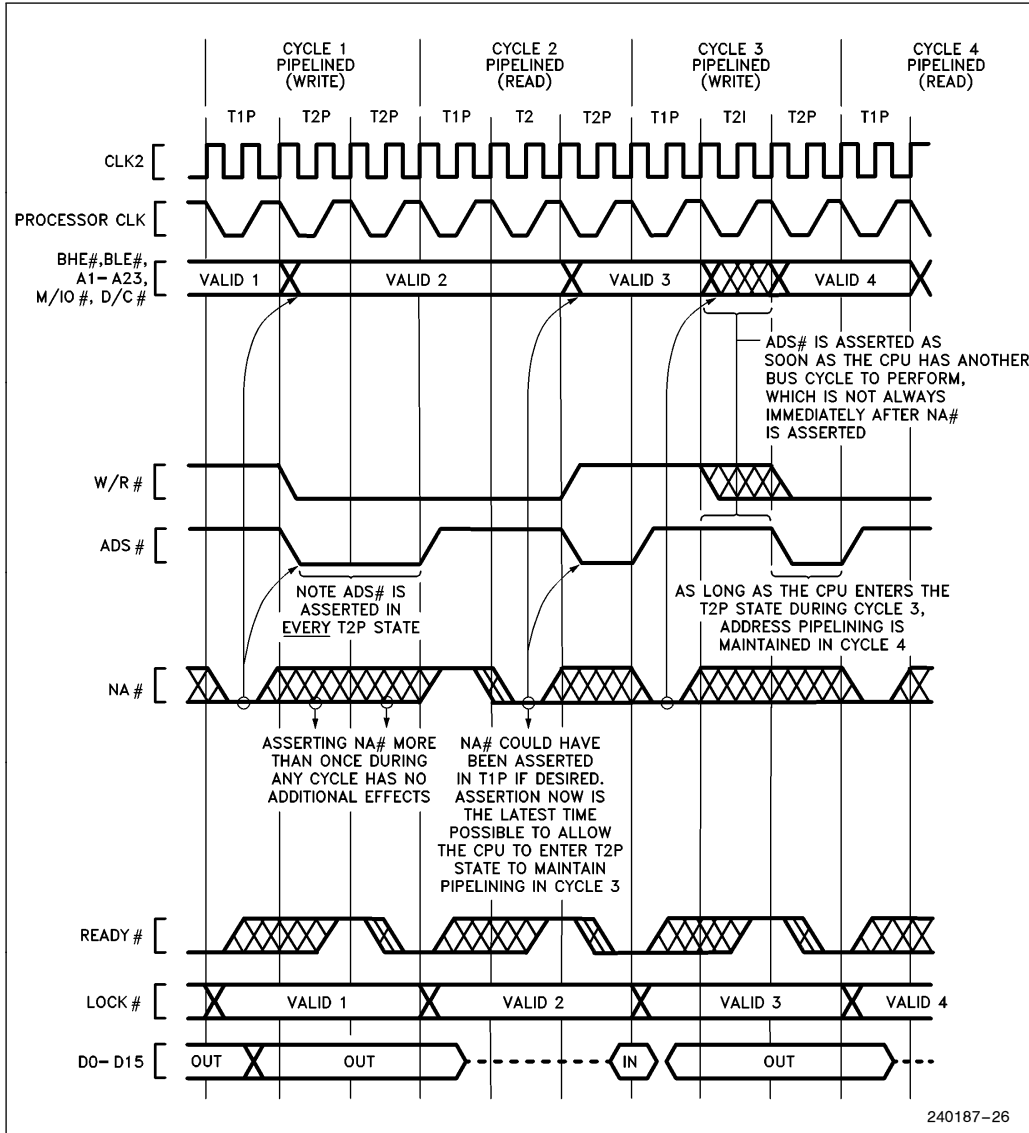

Figure 5.11. Details of Address Pipelining During Cycles with Wait States
1. The next address may appear as early as the bus state after NA# was sampled active (see Figures 5.9 or 5.10). In that case, state T2P is entered immediately. However, when there is not an internal bus request already pending, the next address will not be available immediately after NA# is asserted and T2I is entered instead of T2P (see Figure 5.11 Cycle 3). Provided the current bus cycle isn't yet acknowledged by READY# asserted, T2P will be entered as soon as the Intel386 SX Microprocessor does drive the next address. External hardware should therefore observe the ADS# output as confirmation the next address is actually being driven on the bus.
3. Only the address and bus cycle definition of the very next bus cycle is available. The pipelining capability cannot look further than one bus cycle ahead (see Figure 5.11 Cycle 1).